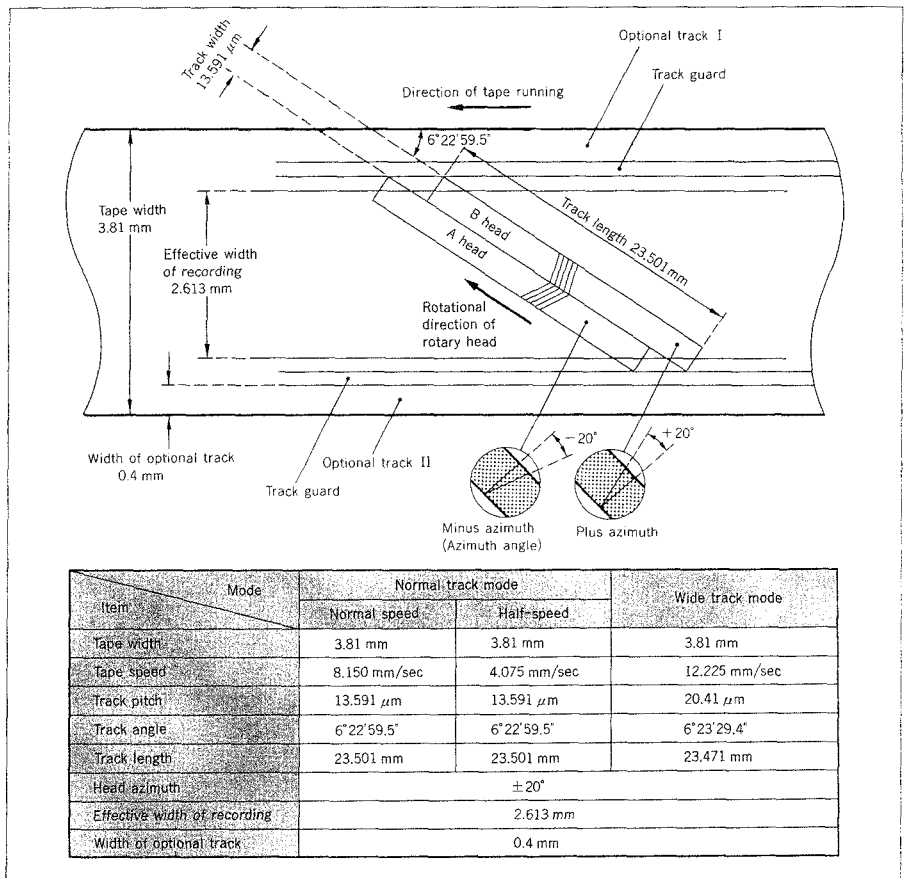

Fig. 3: Tape recording format
- As in a VCR, the signal is recorded on the tape obliquely (see Fig. 3).
- (1) Music signals (targeted program source) digitized by pulse code modulation (PCM).
- (2) Subcodes, signals provided for user convenience that make it possible to record information such as the selection number, various control signals and expanded functions.
- (3) Automatic track finding (ATF) signal, which automatically follows tracks. Using this signal, the head accurately traces the recorded track during playback.